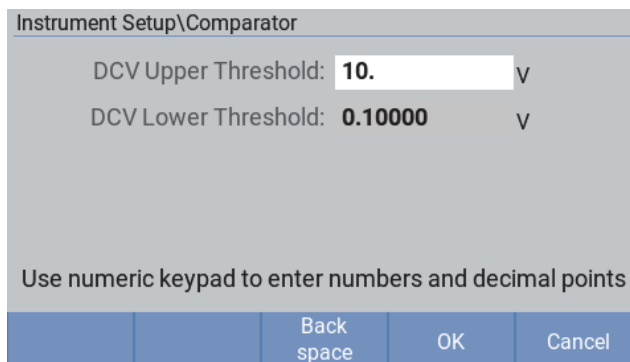

Figure 26. Setting the comparator thresholds
3. Use the up/down arrow (⏮ ⏭) buttons on the front panel to select **ON**, then press **F4** (OK); to switch the comparator off, use the up/down arrow (⏮ ⏭) buttons on the front panel to select **OFF**, then press **F4** (OK).
5. Use the up/down arrow (⏮ ⏭) buttons on the front panel to select **DCV Upper Threshold** option, then use the numeric keypad to enter a voltage value, in V, in the **DCV Upper Threshold** editbox, which can include a decimal point. As shown in the Figure 26.